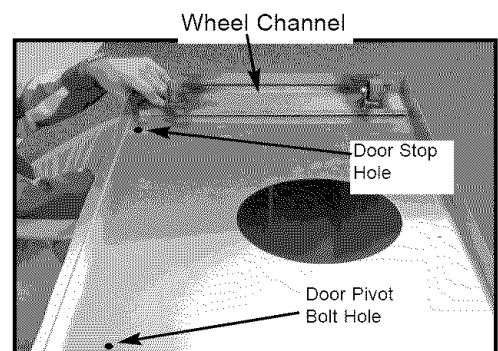

Fig. 2
2. Set the base on the top of the cart assembly, with large opening closer to back portion of cart, and align the eight mounting holes. Then set the 2 wheel channels on the base and attach them using the (8) bolts provided, from inside the cart upwards through wheel channels. (See Fig. 2)
4. **Door Pivot Bolt:** Insert Bolt downward from bottom side of Cart Base through the hole found in the left/front of the base and secure with bolt. (See Fig. 2)